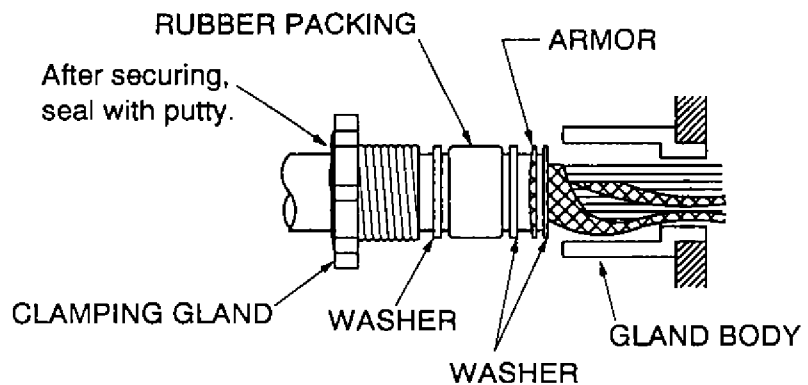

Fig. 2-5 Fabricating the Signal Cable RW-6895
6. Ground the armor through the two washers as shown in Fig. 2-5. Trim the shields considering their location on the earth terminal inside the scanner unit, fit crimp-on lugs (yellow, FV2-4 $\phi 4$) to each shield, then connect to the ground terminal in the scanner unit.